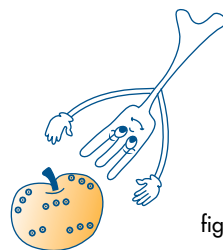

fig. 5
- 4) **Pierce foods with skins, shells or peel (eg. apples, potatoes, tomatoes, frankfurters, fish, etc.) with a fork at several points to allow steam to escape from inside. This prevents these foods from exploding inside the oven (see fig. 5).**